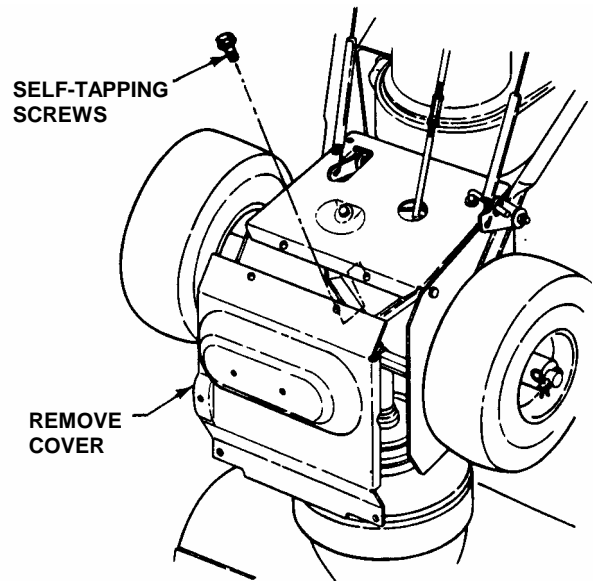

FIGURE 4.5
6. Tilt machine forward to gain access to drive system area. Secure machine in the tilted position to prevent tipping over. Remove drive system cover plate. See Figure 4.5.
1. Tilt machine forward to gain access to drive system area. Secure machine in the tilted position to prevent tipping over. Remove drive system cover plate. See Figure 4.5.